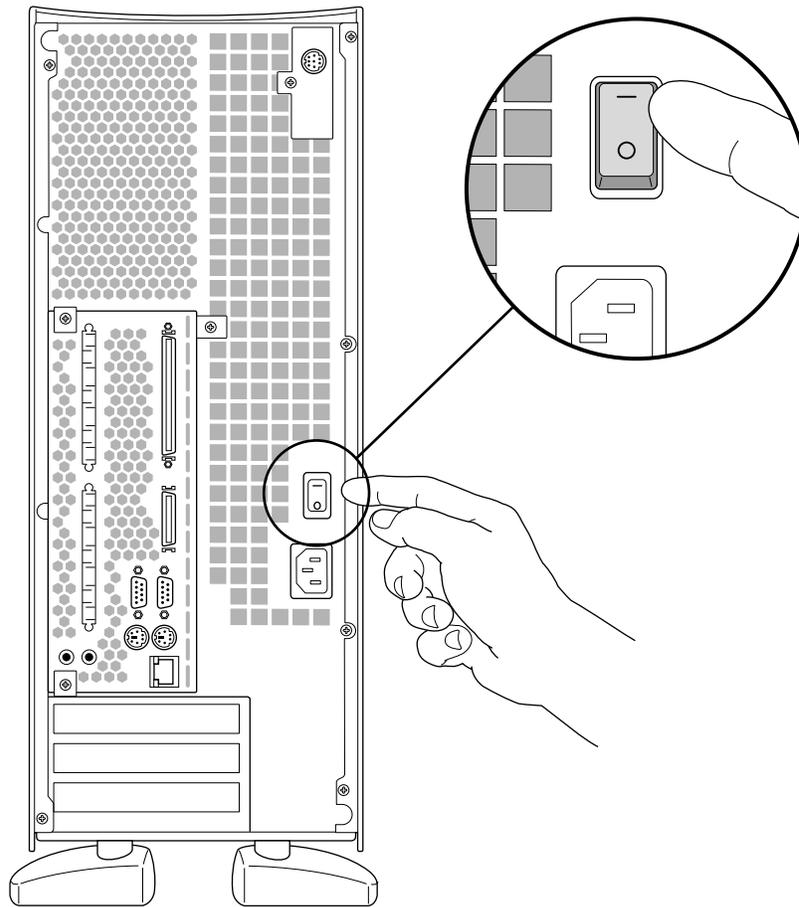

Figure 2-27 Turning On the Master Power Switch
1. At the rear of the system, turn the master power switch on, as shown in Figure 2-27.